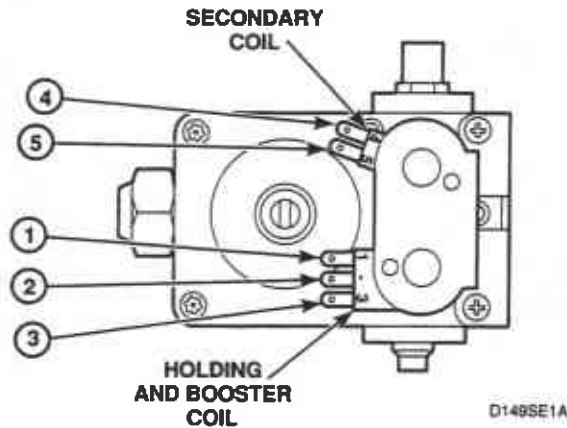

Figure 46
- Remove valve wire harness disconnect block from the holding and booster coil, *Figure 46*.
- Set test meter to read OHMS and put meter probes to terminals as in *Figure 46*, and the chart below.
- d. Remove wires from sensor terminals, *Figure 46*.